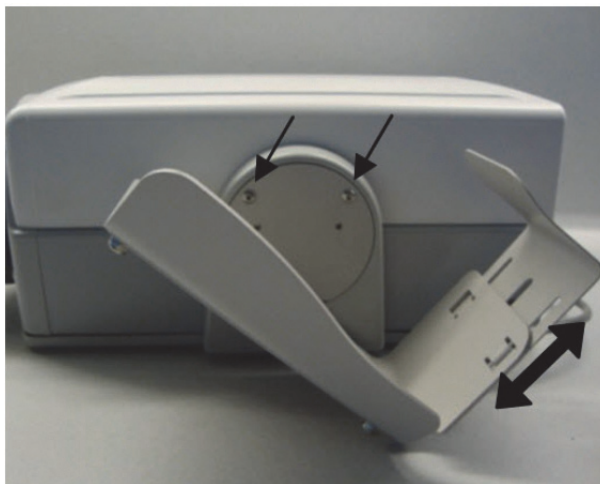

Figure 3
- C. Place the ENDO STRATUS® CO₂ Insufflator on the base tray and install the (2) long screws using the large hex key. See figure 3.